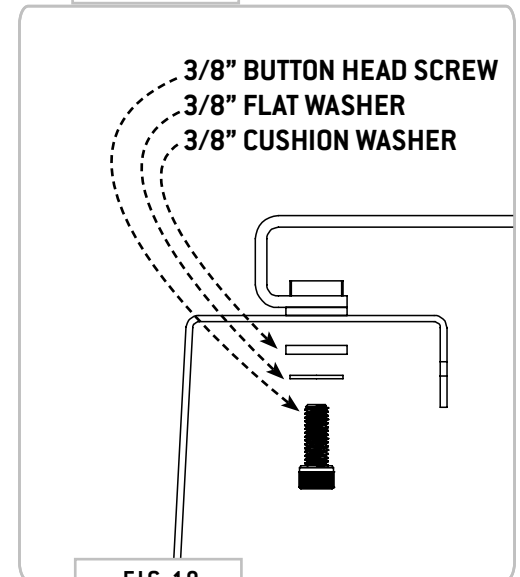

FIG 10
**3.1** Once you have the bed rails up and fully mounted, you can simply place the bed panels on and fasten them to the rails using the **3/8-16" Socket Cap Screws, 3/8" Flat Washers and 3/8" Cushioning Washers** (FIG 10).